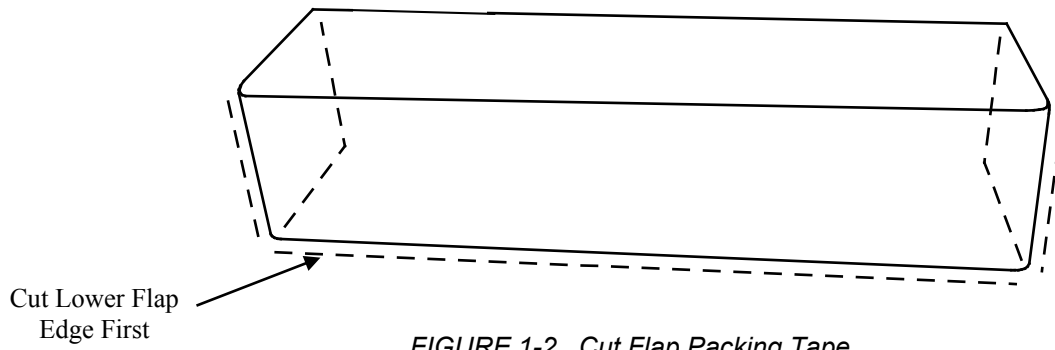
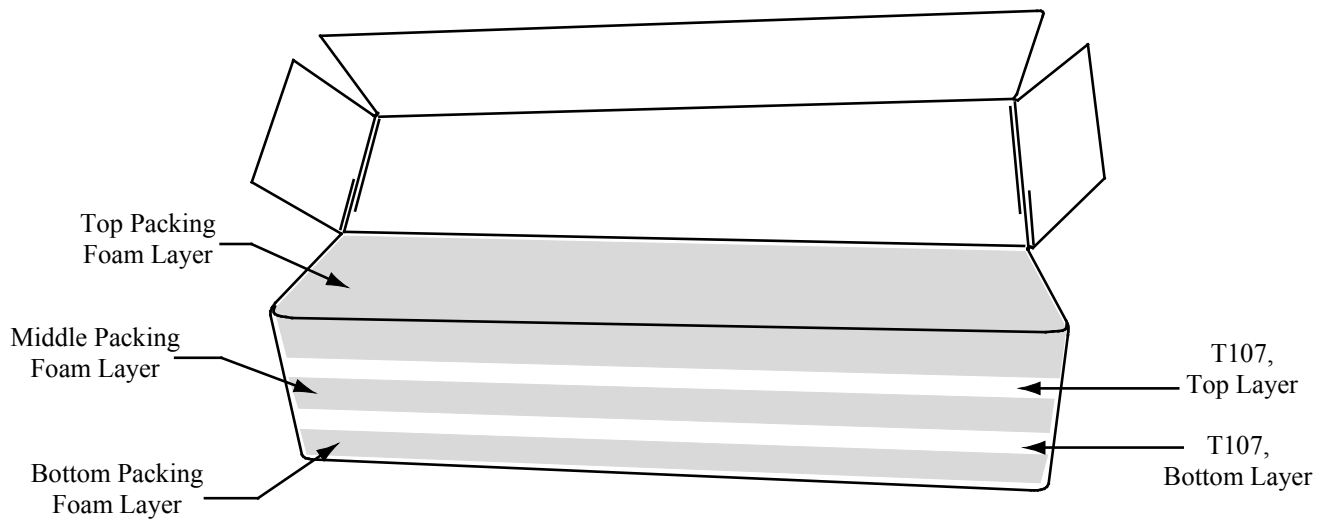
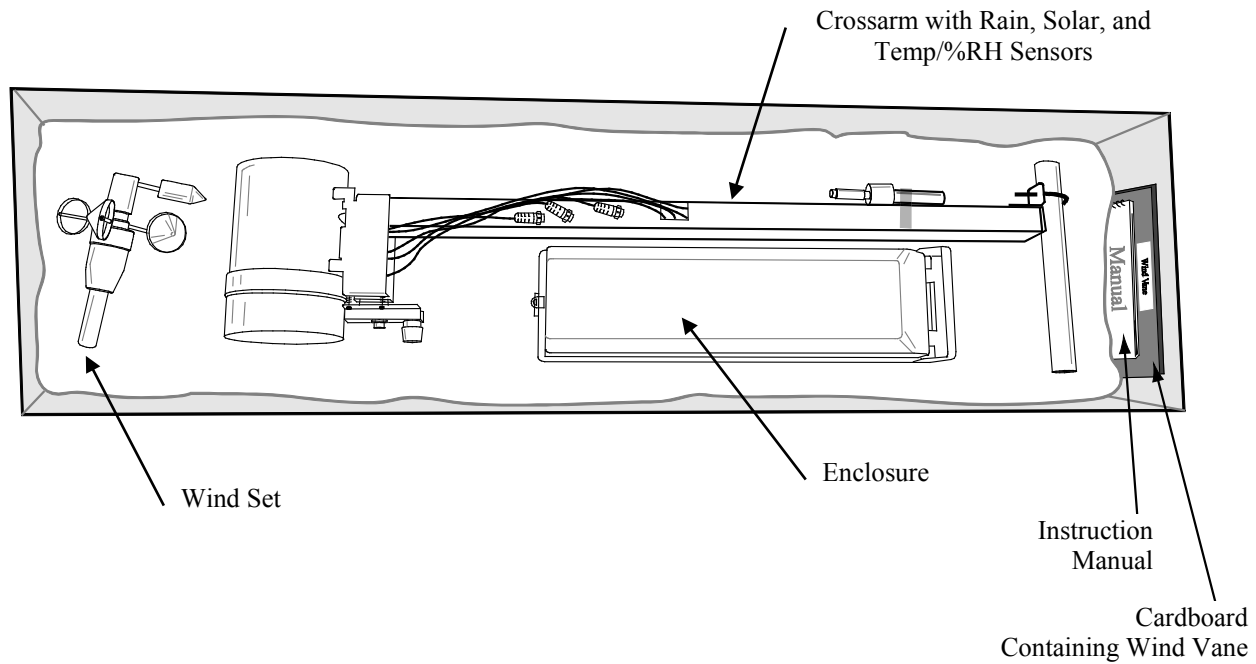
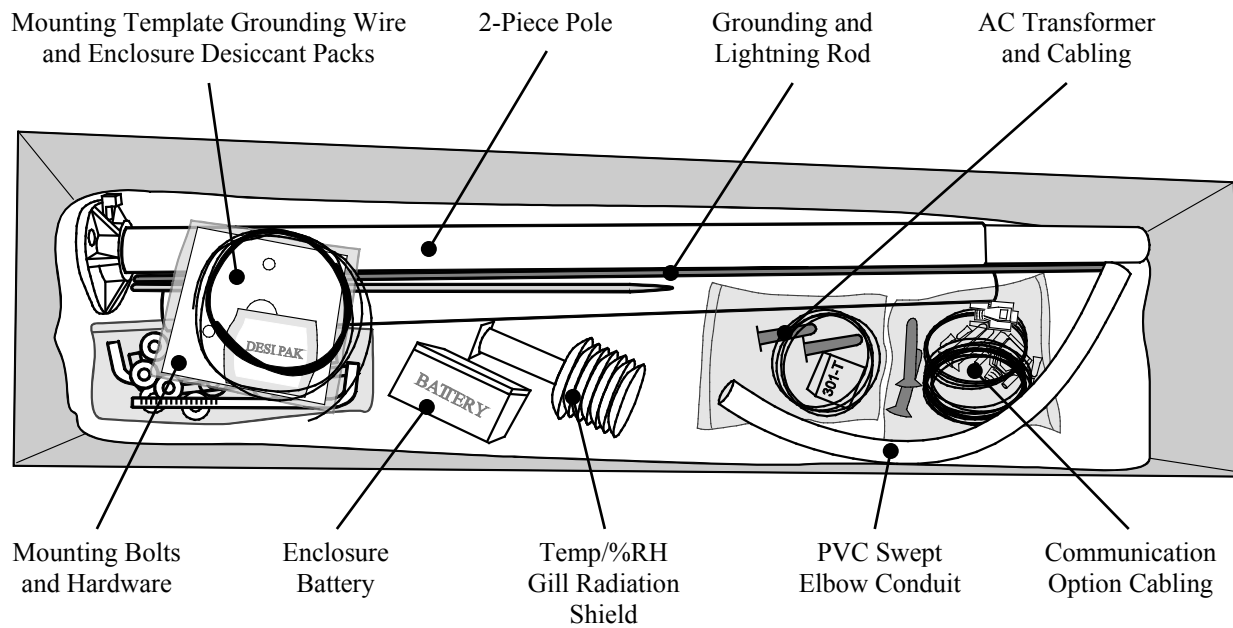

FIGURE 1-2. Cut Flap Packing Tape
FIGURE 1-3. Shipping Box Packaging
FIGURE 1-4. T107 with the Met One 034B-ETM Wind Sensor, Top Layer
FIGURE 1-5. T107, Bottom Layer
- ⇒ Weather station is packed in the shipping box in layers. See FIGURE 1-2, FIGURE 1-3, FIGURE 1-4, and FIGURE 1-5.
- Set the large weather station carton down lengthwise on a floor or table top. Position the box as shown in FIGURE 1-2.
- Cut the tape along the edge of the lower flap first. See FIGURE 1-2.
- Lift up the cardboard flaps exposing the top layer of foam as shown in FIGURE 1-3.